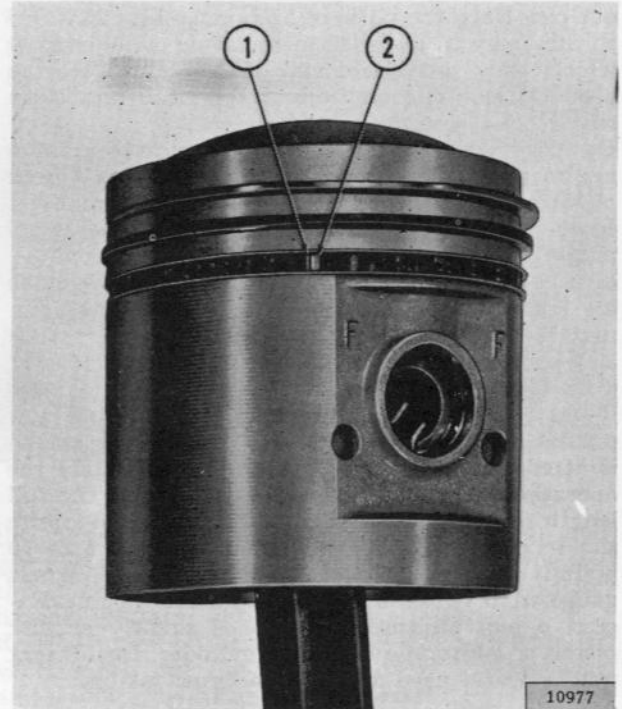

FIG. 94—CORRECTLY ASSEMBLED SEALED POWER PISTON RINGS
g. Install new ring set, using either production replacement rings or oil control rings. Production replacement rings are the same as the original factory installed rings, while oil control ring sets have different components, notably the oil ring spacer. When installing the oil ring spacer for Sealed Power rings, make sure that both the green and orange dot are visible as shown in Fig. 94 at the spacer gap to indicate that the ends have not overlapped. If only one dot is visible, the condition must be corrected. Follow instructions on ring envelopes for proper installation. Use a piston ring tool to install rings on pistons as shown in Fig. 95.